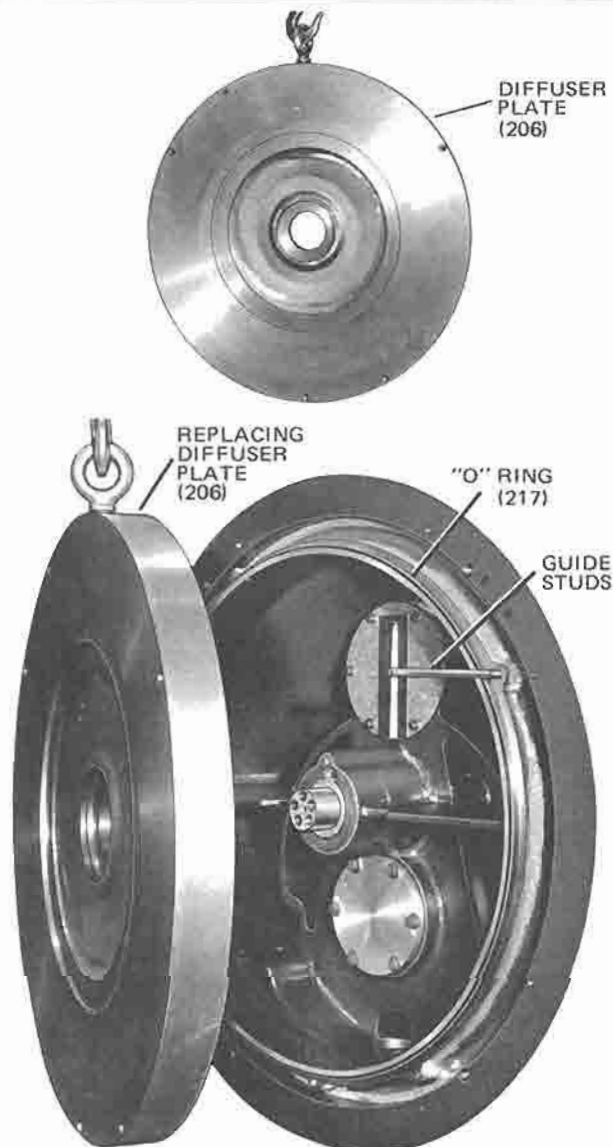

FIG. 39 — REMOVING AND REPLACING DIFFUSER PLATE
1. Install "O" ring (217) around the perimeter of the rotor housing.
2. Install two 3/8-16 UNC guide studs (064-18716 from the compressor tool kit) in the rotor support casing. (See Fig. 39).
3. Install the diffuser plate (206) over the guide studs. (See Figs. 39 & 40.)
4. Install the socket hd. hex cap screws 3/8-16 UNC (219) to hold the diffuser plate in place. (Refer to Figs. 39.) Remove guide studs and replace with socket hd. cap screws tightened with a torque wrench. Torque in accordance with the specified screw size, refer to Table 4.